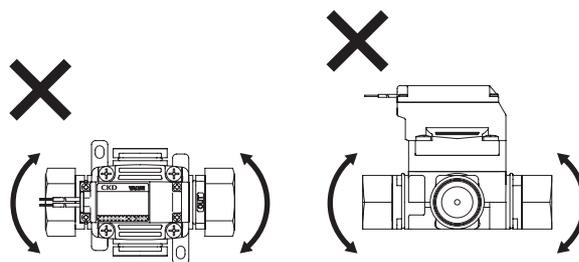
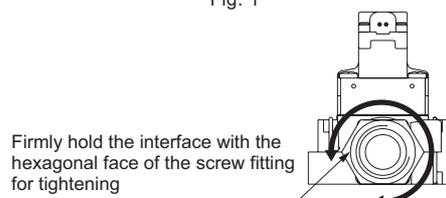

Fig. 1
Fig. 2
- When screwing in the fitting, do not apply pressure in the direction as indicated in the following Fig. 1. The product will be damaged. Firmly tighten the screw in the direction as indicated in the Fig. 2 and apply torque.